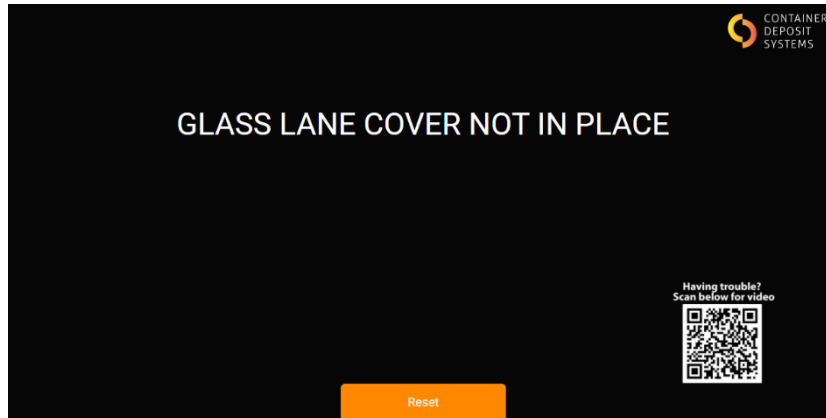

Figure 40. Conveyor cover Fault
- If the safety switch is activated the screen will appear (mixed lane shown) as in Figure 40. Conveyor cover Fault